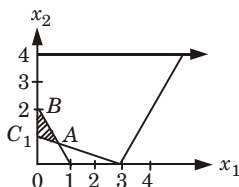

Fig. 5.6.1.
3. After plotting the values on graph, ABC is the feasible region as shown in Fig. 5.6.1.